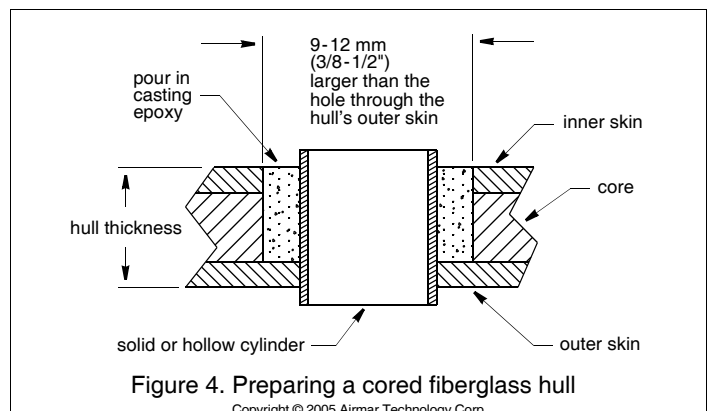

Figure 4. Preparing a cored fiberglass hull
- Using the 51 mm or 2" hole saw, cut the hole from outside the hull through the *outer skin* only (see Figure 4).